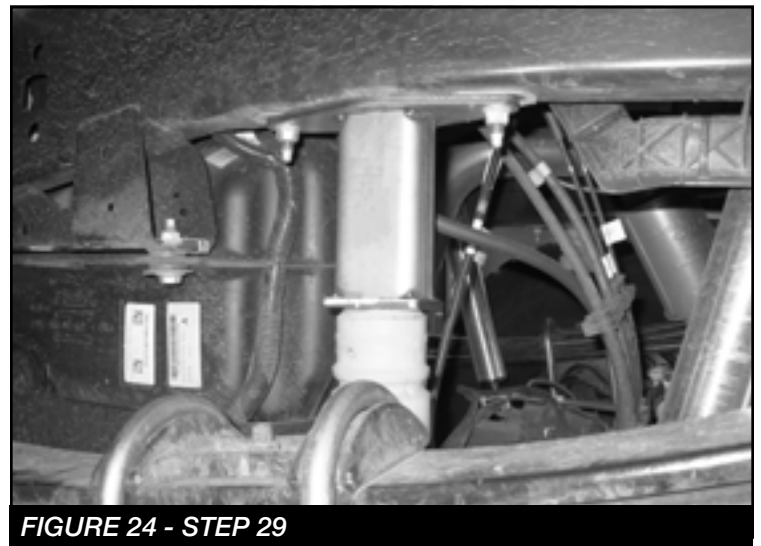

FIGURE 24 - STEP 29
29. **(5" BLOCK)** Remove the rear factory shocks, ubolts and blocks. Locate and install the 5" rear lift blocks (FTBK53) using the supplied u-bolts, nuts and washers. Align axle, lift blocks and springs and torque to U-Bolts to 170 ft-lbs. Remove the factory rear bumpstop assemblies from the frame. Save hardware. Remove the foam bump from the mount plate. Install the factory foam bumpstop to FT30891 (Bumpstop bracket) Torque to 40 ft-lbs. Then, install the assembly to the frame using the factory nuts. Torque to 70 ft-lbs. **SEE FIGURE 24**